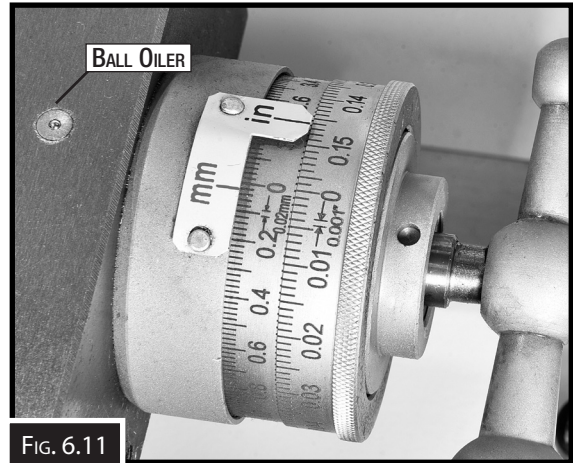

FIG. 6.11
- Compound-rest leadscrew & slides (Fig 6.11)